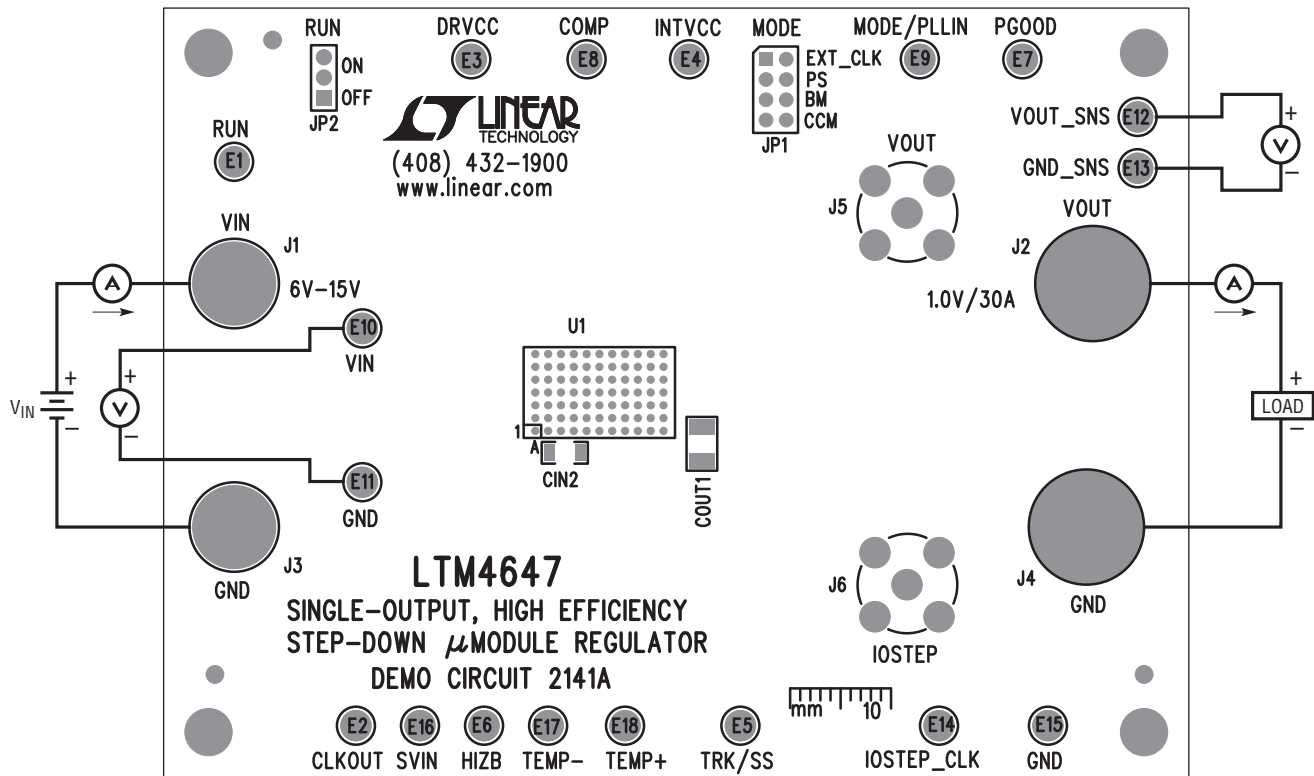

Figure 1. Measurement Set-Up of DC2141A
Demonstration circuit 2141A is an easy way to evaluate the performance of the LTM4647EY. Please refer to Figure 1 for proper measurement equipment setup and follow the procedure below:
- With power off, connect the input power supply, load and meters as shown in Figure 1. Preset the load to 0A and V_{IN} supply to 12V.